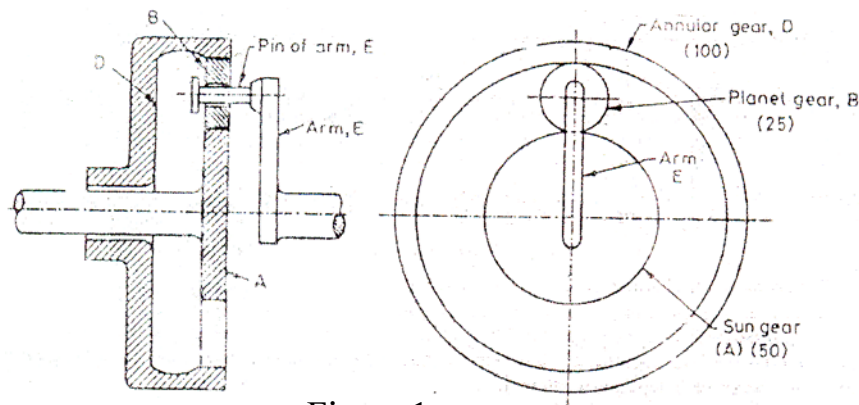

Figure 1
b) The sun and planet gear of an epicyclic gear as shown in Figure 1. The annular gear D has 100 internal teeth, the sun gear A has 50 external teeth and planet gear B has 25 external teeth. The gear B meshes with gear D and gear A. The gear B is carried on arm E, which rotates about the centre of annular gear D. If the gear D is fixed and arm rotates at 20 rpm, then, find the speeds of gear A and B. 10